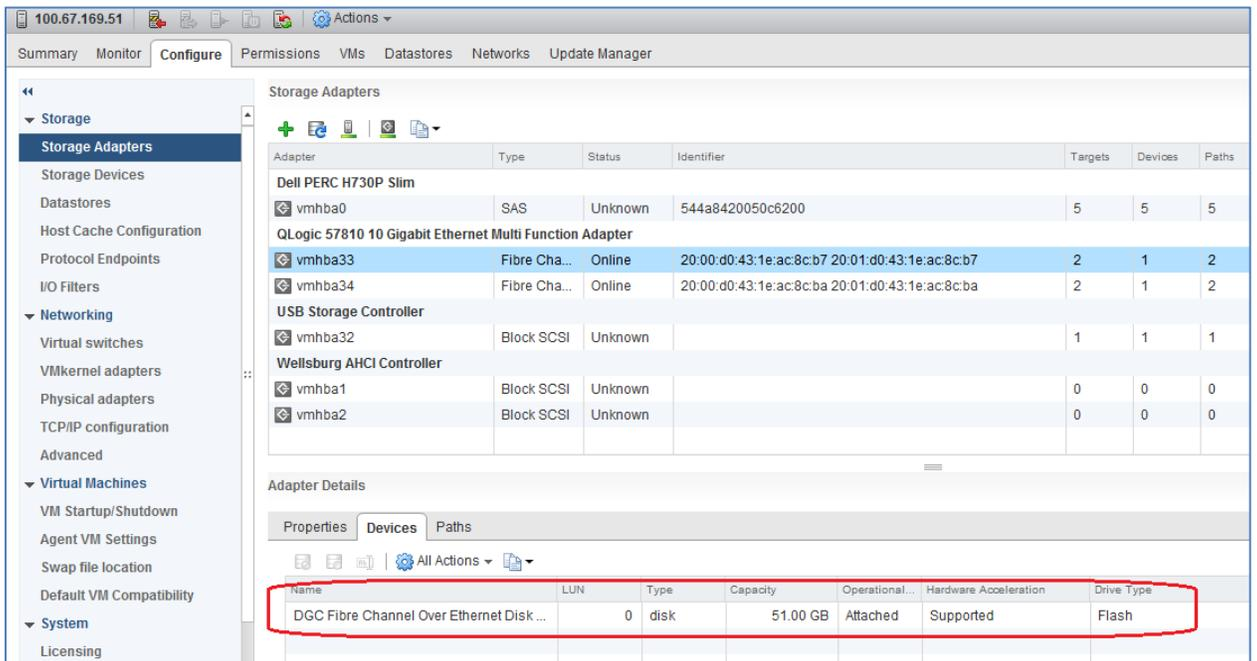

Figure 26 LUN visible to ESXi host
5. The LUN on the storage array mapped to this host appears under **Adapter Details** on the **Devices** tab as shown in Figure 26.